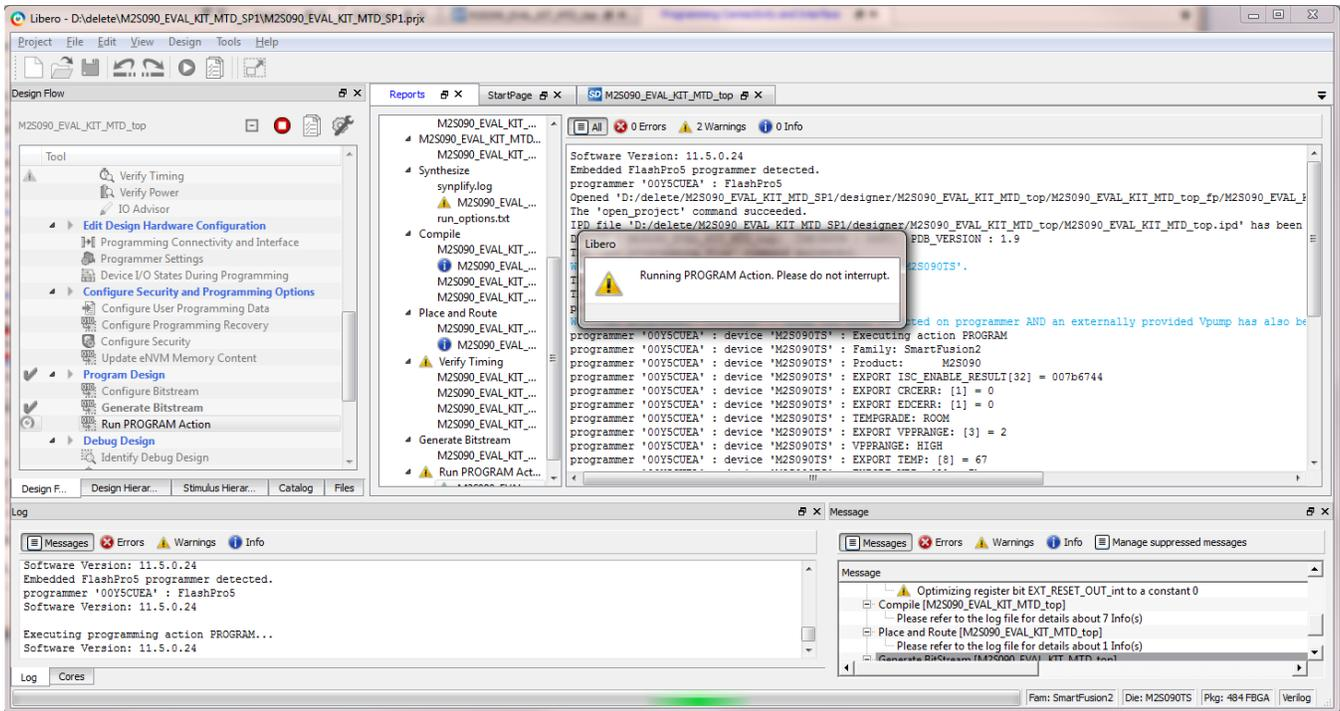

Figure 28 Running Program Action
11. When the programming begins, the window is displayed as shown in **Figure 28**.